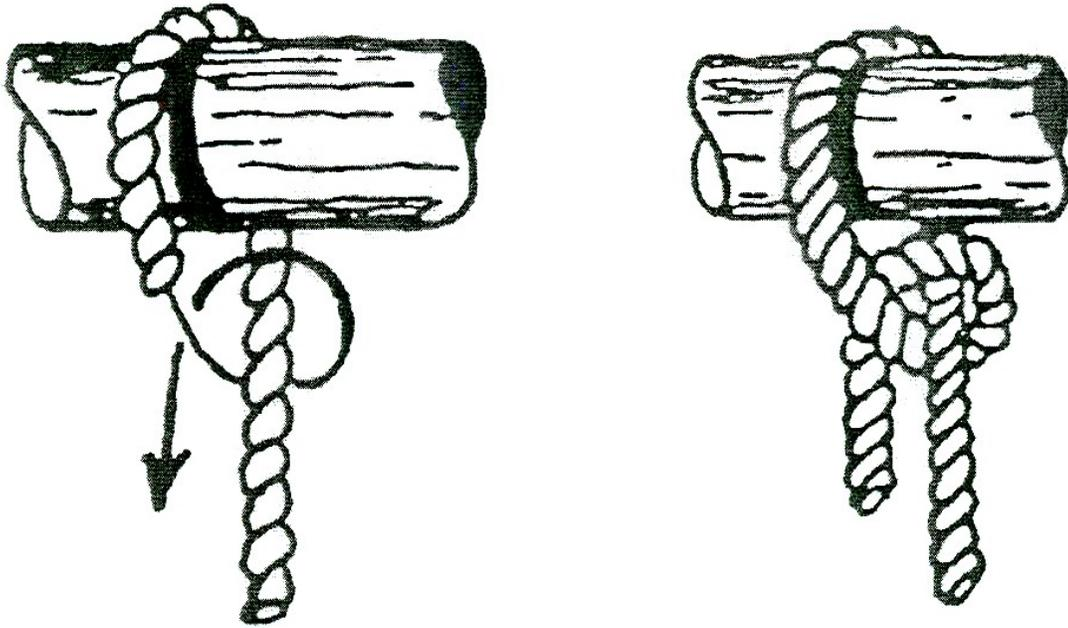

Figure 3-79
5. Tie a half hitch (see Figure 3-79).